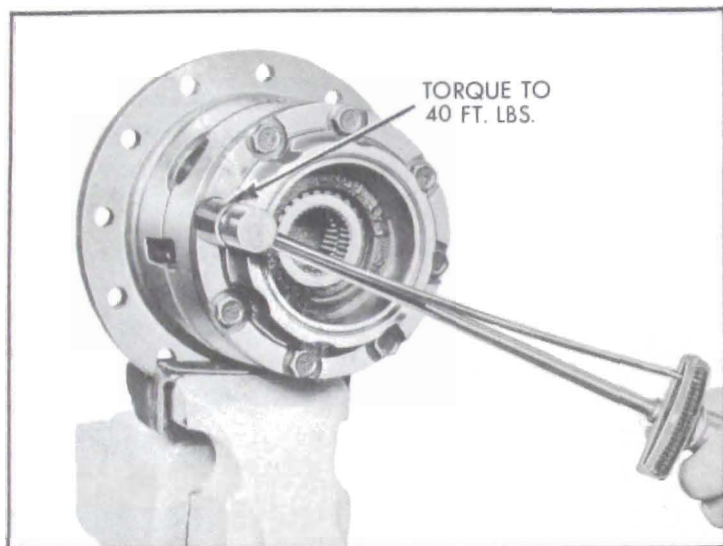

Figure 6-42—Torquing Differential Bolts
9. Install eight cover to flange half bolts and tighten evenly and alternately to 40 ft. lbs. torque. See figure 6-42.